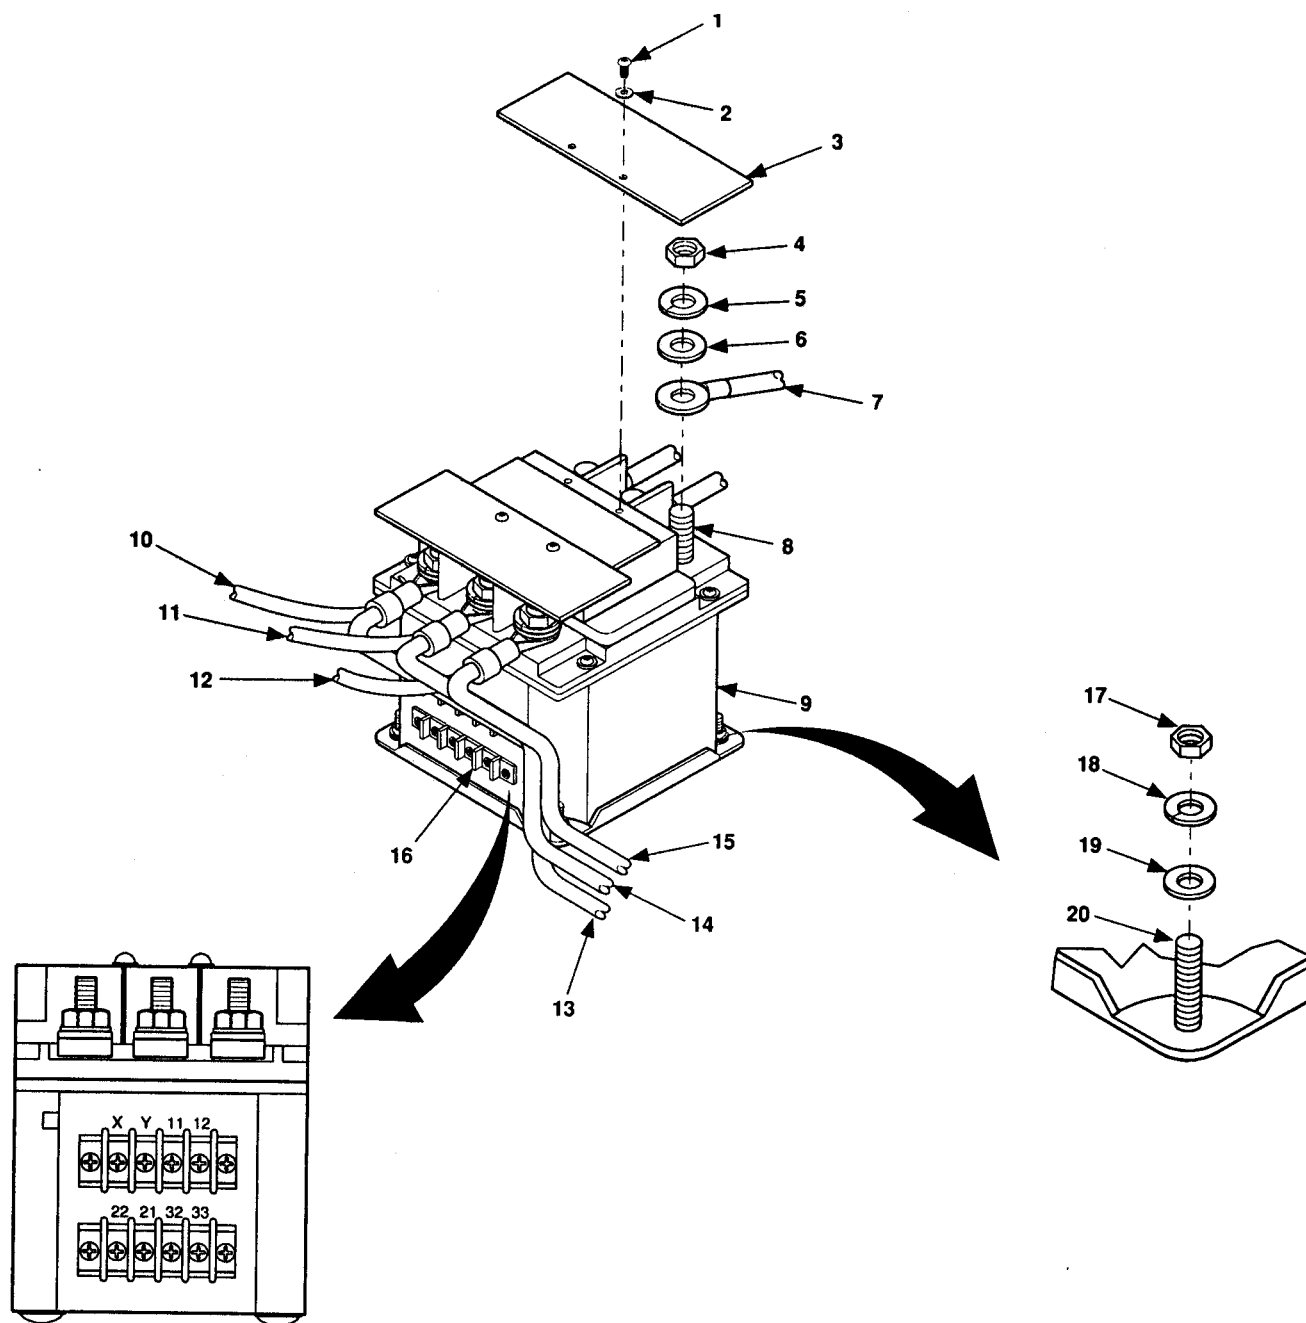

Figure 5-19. Replace Contactor.
1. Remove four screws (1, figure 5-19), lock washers (2) and terminal shields (3) from contactor (10).
2. Remove nuts (4), lock washers (5), and flat washers (6) horn all contactor terminals (9).